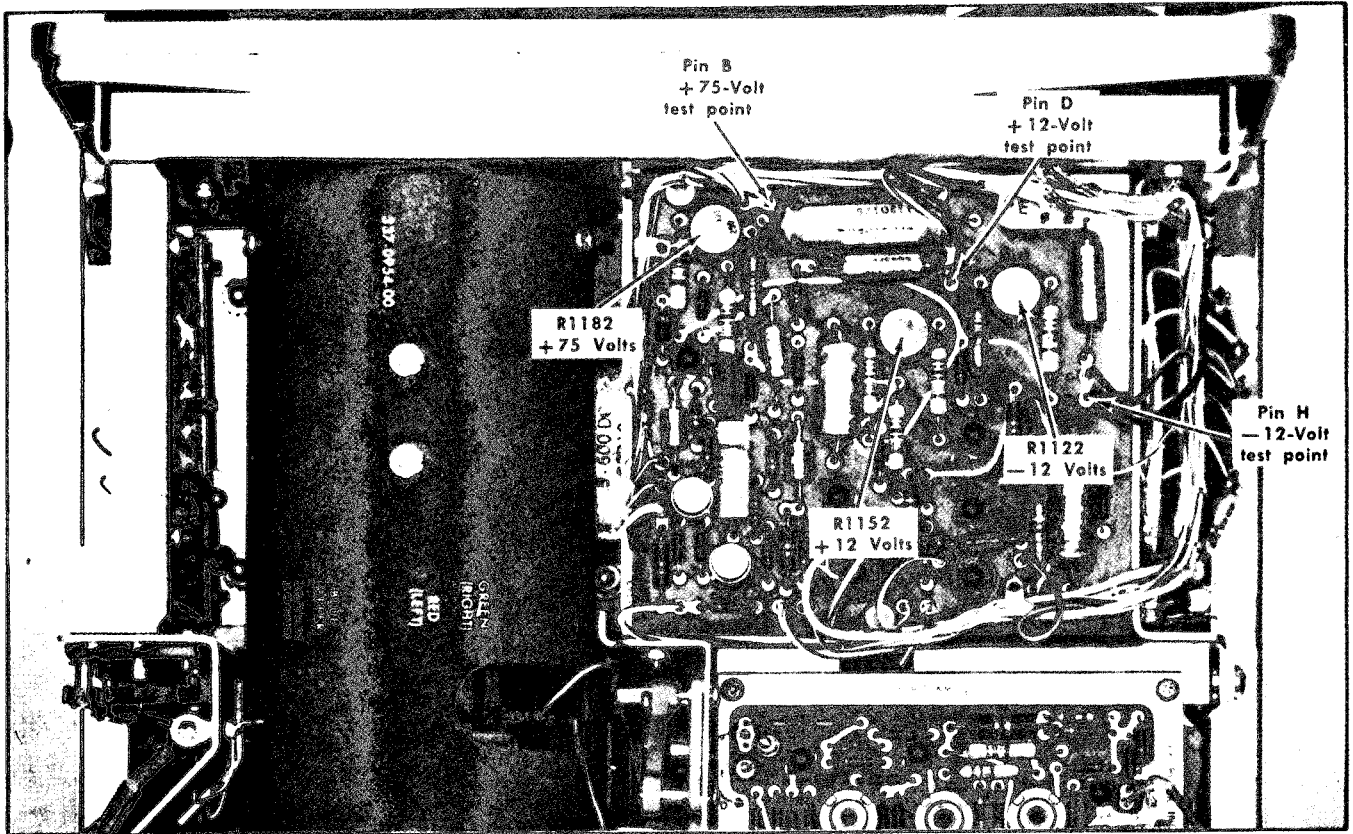

Fig. 6-4. Low-voltage power supply test points and adjustments (Low-Voltage Regulator circuit board).
- b. Connect the precision DC voltmeter from the -12-volt test point (pin connector 'H', Low-Voltage Regulator board; see Fig. 6-4) to chassis ground.
- d. ADJUST- -12 Volts adjustment, R1122 (see Fig. 6-4), for -12 volts.
- d. ADJUST- +12 Volts adjustment, R1152 (see Fig. 6-4), for a +1 volt meter reading.
- h. Connect the precision DC voltmeter from the +12-volt test point (pin connector 'D', Low-Voltage Regulator board; see Fig. 6-4) to chassis ground.
- a. Connect the precision DC voltmeter from the +75-volt test point (pin connector 'B', Low-Voltage Regulator circuit board; see Fig. 6-4) to chassis ground.
- c. ADJUST- +75 Volts adjustment, R1182 (see Fig. 6-4), for +75 volts.
Voltage Selector assembly on the rear panel. Power-supply test points are shown in Fig. 6-4. Fig. 6-8 shows a typical test oscilloscope display of ripple.